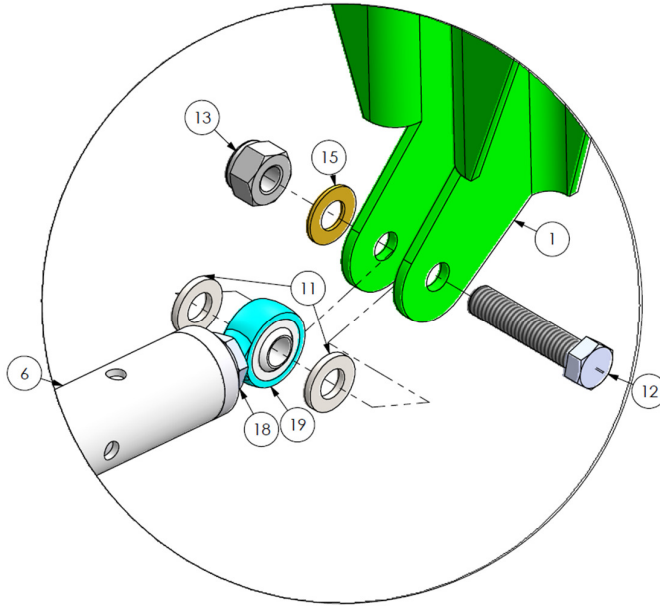

Figure 28: Eyebolt assembly, Detail F
Step 11. To replace the eyebolt seen in Figure 28, remove the AN4 locknut (13) and bolt (12). Replace the *noncompliant* eyebolt with either a *type 1* or *type 2* eyebolt.
- Step 12. Once the eyebolt has been replaced, reconstruct the eyebolt assembly. Refer to Figure 28 for component layout.